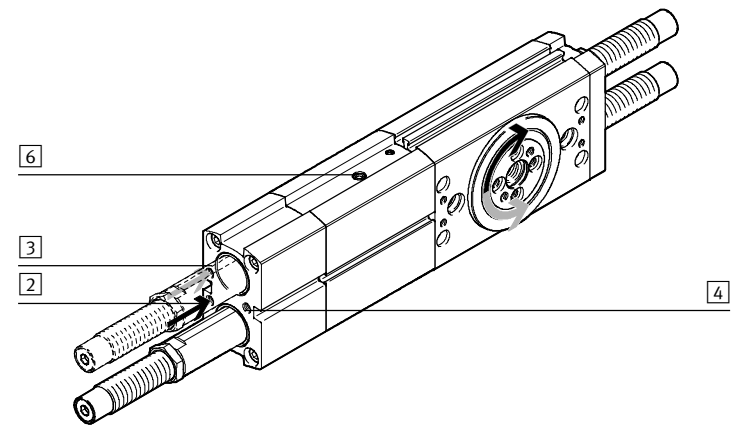

Fig. 2
- Connect tubes to the supply ports (→ Fig. 2):